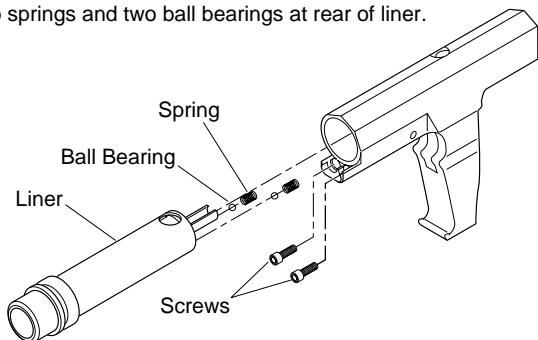

**Figure 8 - Removing Trigger Pin and Trigger Assembly**
1. Remove trigger pin from tool body (see Figure 8). *Note:* End of trigger pin is threaded. Unscrew threaded portion of pin, then pull pin from tool body.
1. Insert trigger assembly into tool body at rear of body (see Figure 8, page 20).